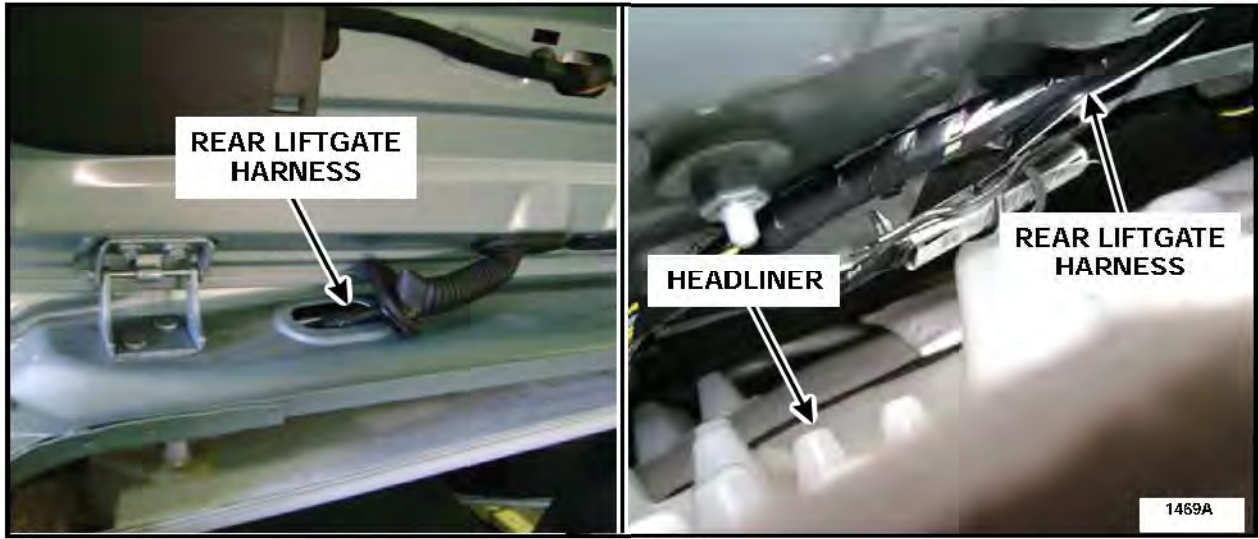
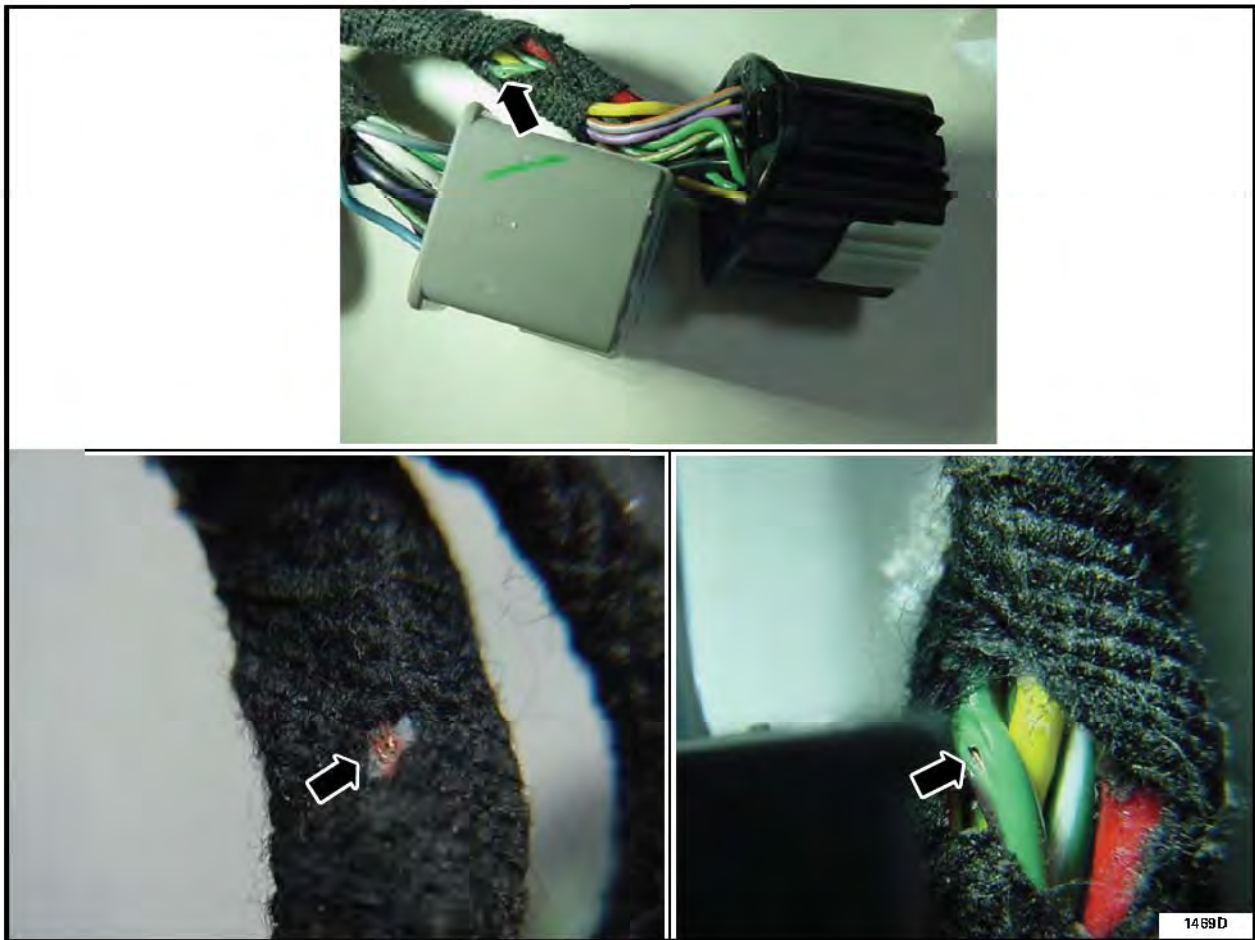

FIGURE 1
FIGURE 4
1. Inspect for damage or chafing to wiring harnesses in the areas noted below. See Figures 1 through 3 for locations, and Figure 4 for examples of damage and chafing.